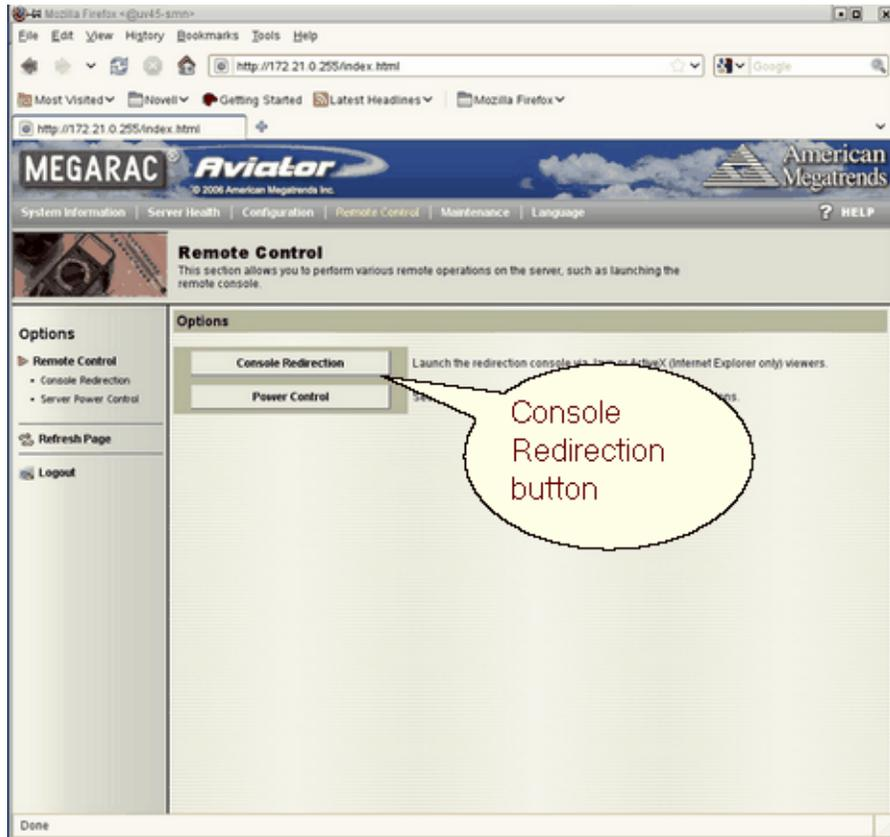

Figure 3-3 BMC Remote Control Screen
6. The **Remote Control** screen appears, as shown in Figure 3-3 on page 36. Click on the **Console Redirection** button.